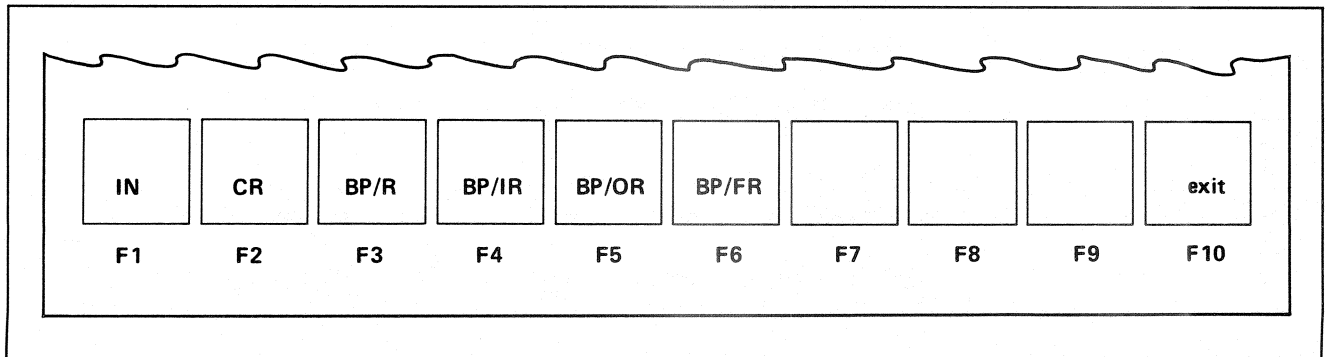

Figure 9-2. Secondary Contact Screen
The screen displays the normally open or normally closed contact type selected. The function key selections, shown in Figure 9-2, are then displayed.
**Step 2** – Select a specific type of contact by pressing one of the F1 thru F6 keys, as shown in Figure 9-2.